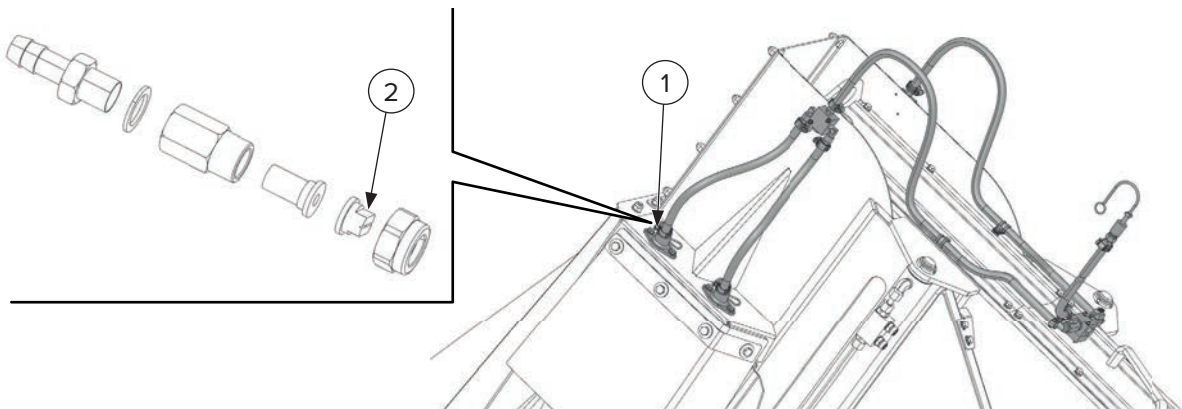

Figure 19
1. Check the water nozzles [Figure 19, Item 1] located on the attachment, and clean them if necessary.